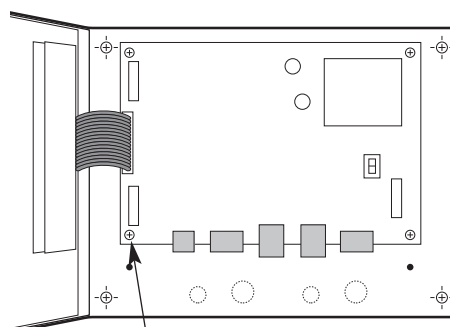

Figure 1
- Unscrew the four Phillips (cross-head) screws holding the motherboard to the enclosure (see Fig 1). Remove the motherboard, and put it out of harm's way.